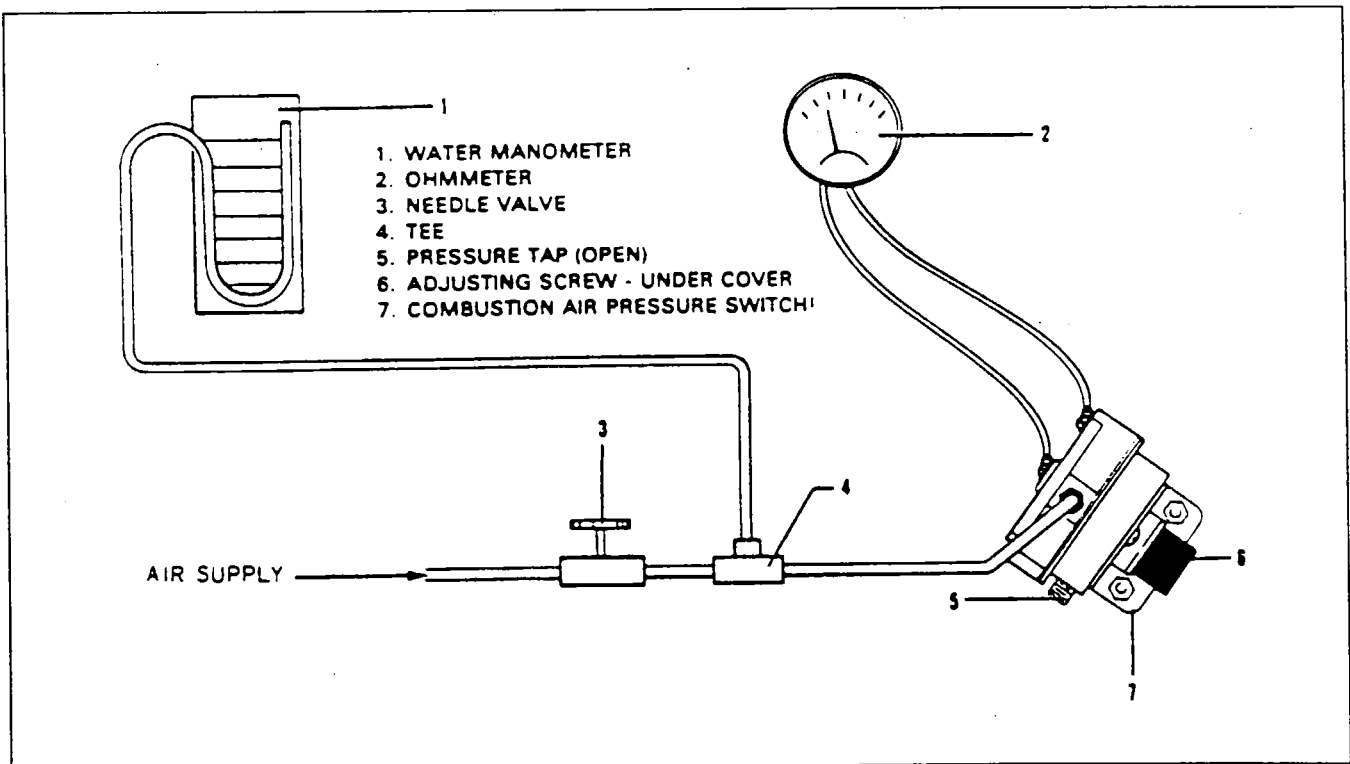

Figure 21-11. Test Set-up - Combustion Air Pressure Switch
4. The combustion air pressure switch installed on the system must respond to delicate pressure changes and should always be checked and/or replaced at overhaul (Refer to Step 3 testing and Figure 21-11.)
3. Test the combustion air pressure switch as follows: (Refer to Figure 21-11.)